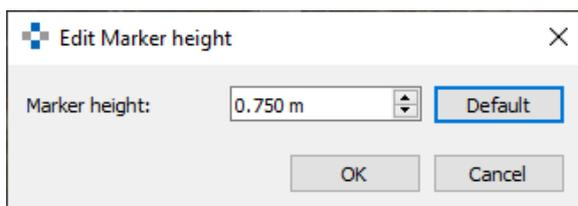

Figure 11: Edit marker height
12. Edit the height of the marker by clicking the “Edit Marker Height” icon in toolbar 2 and enter the default height in the corresponding dialog window (Figure 11).